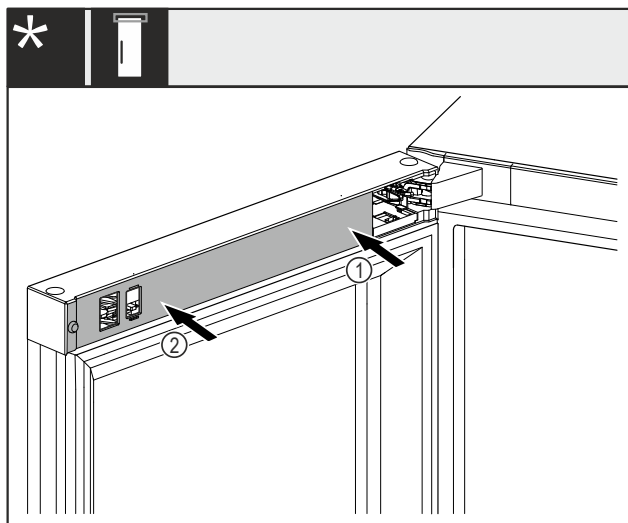

Fig. 41 *
► Position the cover Fig. 41 (1) on the swap bearing block side first and snap it in.*
► Position the cover Fig. 41 (2) on the outside and snap it in.*